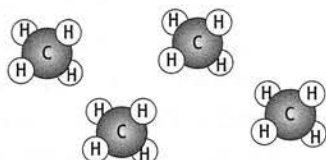

Figure 3.33 Simple molecular substances have low melting points.
- ◆ **simple molecular substances** – consisting of simple molecules in a lattice held together by weak forces (Figure 3.33).